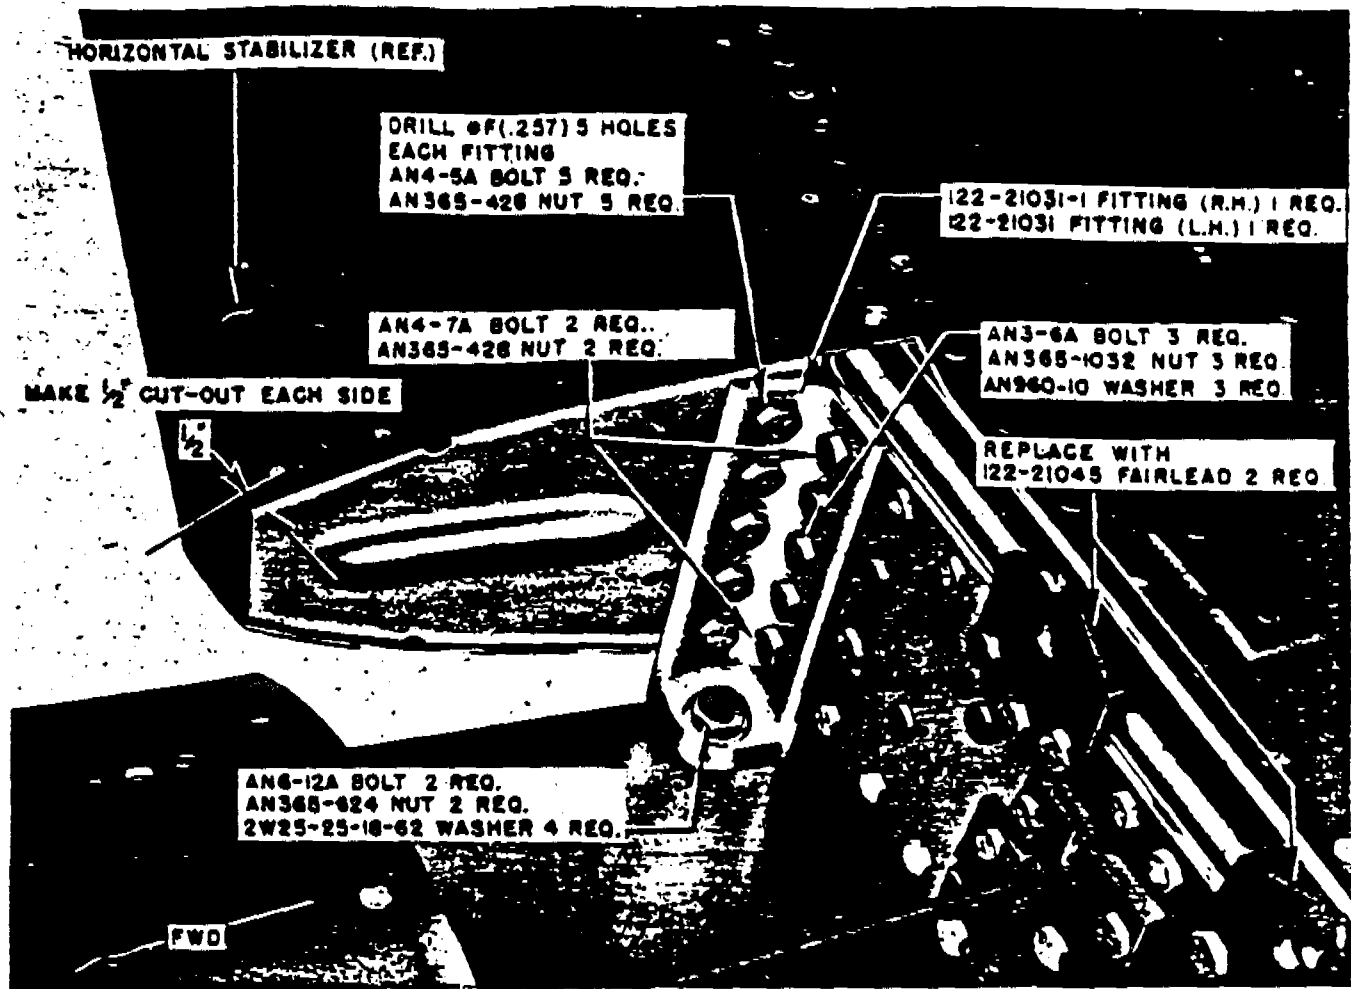

Figure 2 - View Showing Front Casting Installed - Horizontal Stabilizer
(3) Remove the five bolts and nuts securing each of the two front castings to the horizontal stabilizer. Remove the five rivets securing each casting. (See figure 2.)
(4) Make a 1/2-inch cut-out in both leading edge center corners as shown in figure 2. This will provide an opening through which a wrench may be inserted to install the new castings. (See figures 2 and 3.)
(5) Temporarily bolt the fitting, part No. 73-21031, and the new fitting, part No. 122-21031, back with a new shim, part No. 122-21040, between the fittings. In this manner the holes in the old fitting will act as pilots when drilling holes in the new fitting. Use a No. 12 (.189-inch diameter) drill for holes in leg of fitting attaching to front beam of stabilizer. Follow the same procedure for the fitting, part No. 122-21031-1. (See figures 2 and 3.)
(6) Secure the left-hand fitting, part No. 122-21031 (right-hand fitting, part No. 122-21031-1), and the shim, part No. 122-21040, to the front beam of the horizontal stabilizer at the top and bottom holes with two each bolts, part No. AN4-7A, and nuts, part No. AN365-428. Install three each bolts, part No. AN3-6A, washers, part No. AN960-10, and nuts, part No. AN365-1032, in the remaining holes through fitting and beam. Nuts shall be on aft side of beam. Enlarge the five holes in the stabilizer rib through the holes in the fitting with a No. F (.257-inch diameter) drill. Install five each bolts, part No. AN4-5A, and nuts, part No. AN365-428. Nuts shall be on outboard side of rib. (See figures 2 and 3.)
(5) Remove the two fair-leads as shown on figure 2 and replace with two fair-leads; part No. 122-20148. Attach with two each bolts, part No. AN3-7A, washers, part No. AN960-10, and nuts, part No. AN365-1032.